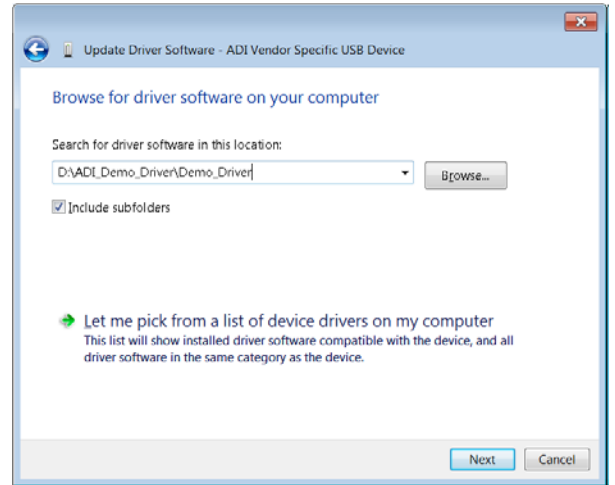

Figure 11. Browse for Driver Software Window
- 5. Choose the unzipped **D:\ADI\_Demo\_Driver\Demo\_Driver** folder and then click **Next** (see Figure 11).